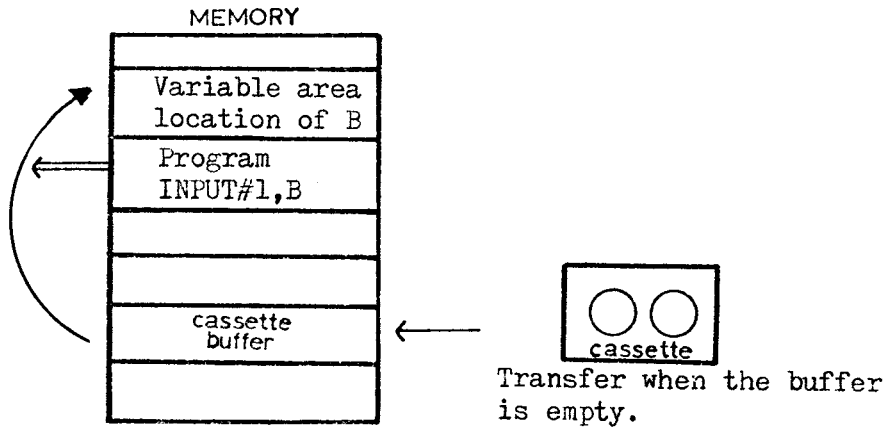

Fig. 2. Data transfer - INPUT#
Step 2. - Data is moved from the cassette buffer to the program. The statements used to move data from the buffer to your variables are `INPUT#` and `GET#`. Fig. 2 shows the path that data follows.